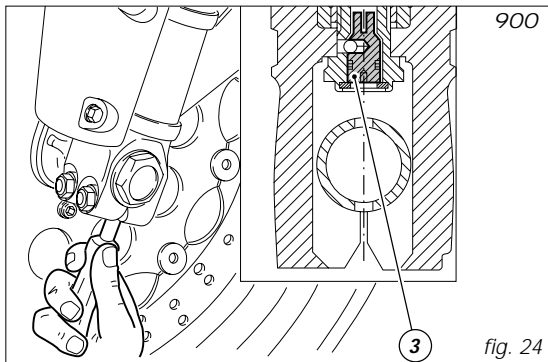

fig. 24
- 3) (fig. 24) to adjust compression damping.